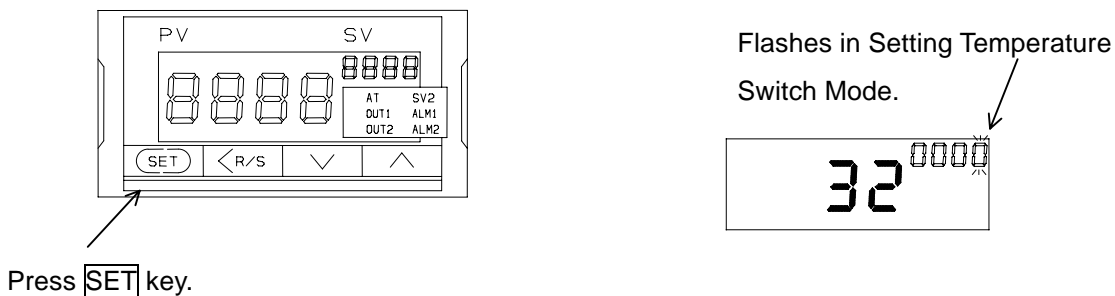

Figure 3-1 Setting 1 of Temperature Adjuster
1. Press SET key of Temperature Adjuster to obtain Setting Temperature Switch Mode. (See Figure 3-1.)